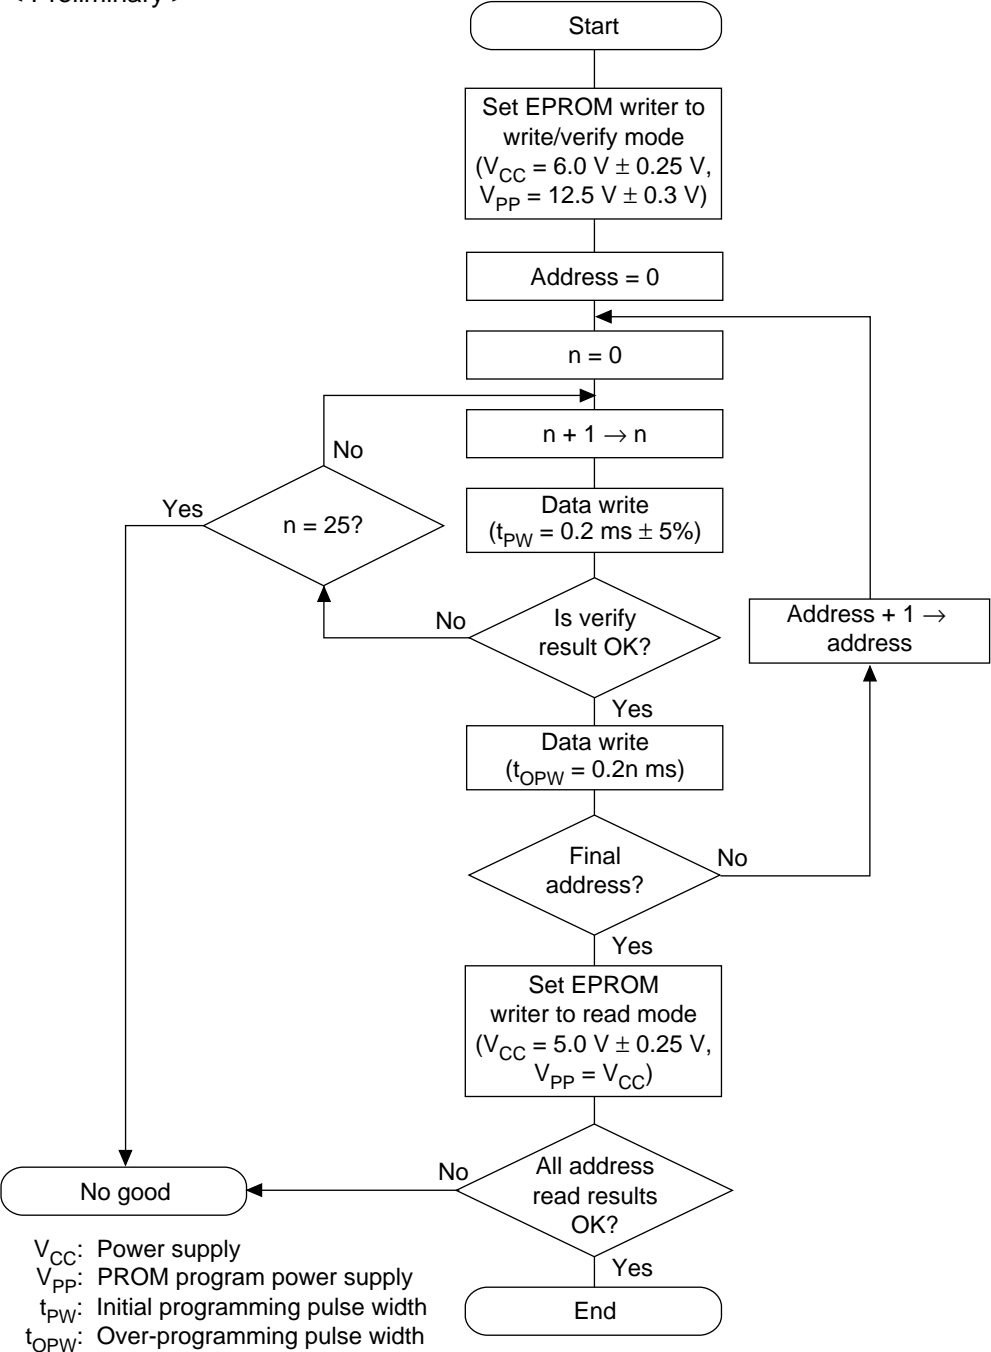

Figure 21.6 High-Speed, High-Reliability Programming Basic Flow
Write/Verify: Writing and verification can be done using an efficient high speed, high reliability programming format. This format allows data writing that is both fast and reliable without applying voltage stress to the device. Figure 21.6 shows the basic flow of the high speed, high reliability programming format.
- 3: t_{OPW} is defined by the values noted in the flowchart (figure 21.6).